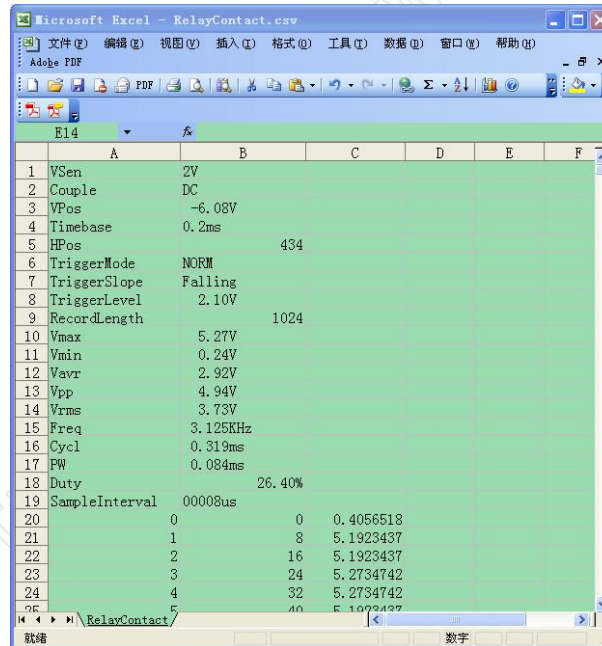

Fig. 11
- Open the saved file in Excel. It would look like that in Fig.11.